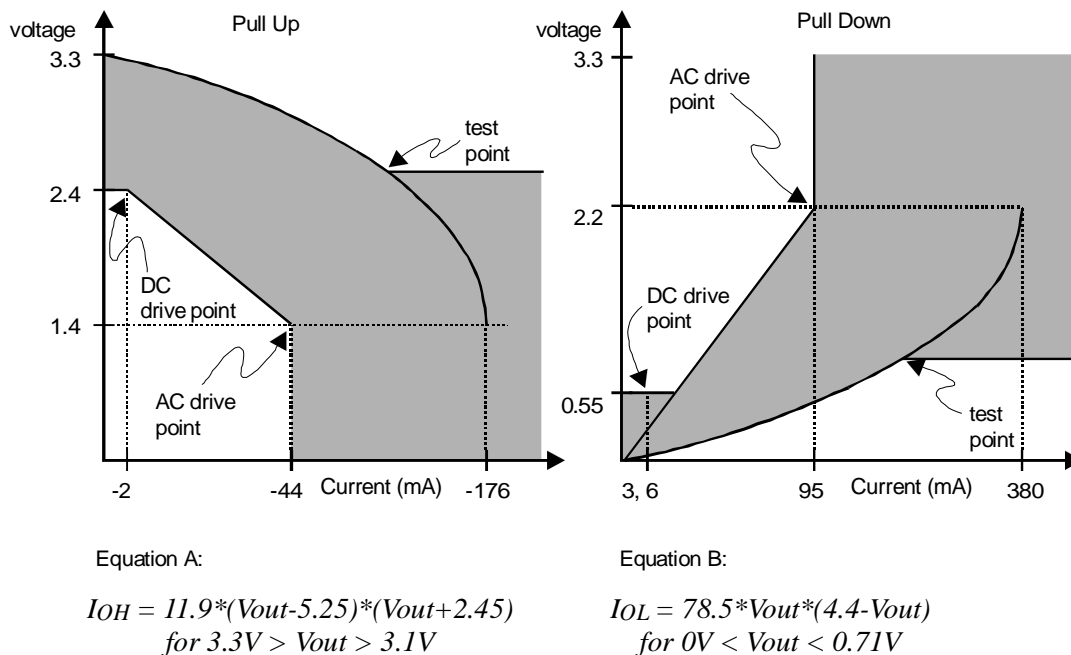

Figure 1. AC Characteristics
- Refer to V/I curves in Figure 1. Specification does not apply to PCICLK and RST# signals. Switching Current High specification does not apply to SERR#, PME#, and INTA# which are open drain outputs.